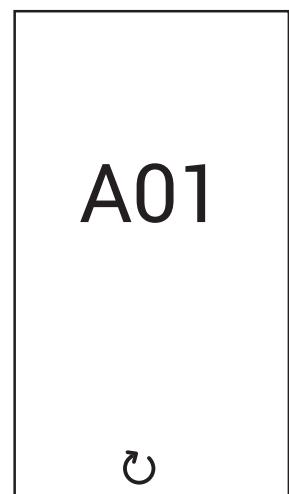

fig. 5
**A-type fault (fig. 5):** To unlock the boiler in the presence of this type of fault, press the button until the message "Confirm?" appears. Then confirm with the button .